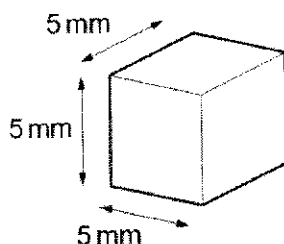

Fig. 2.1
1. Cut 3 cubes from the agar, **A**, as shown in Fig. 2.1. Each cube should be approximately 5 mm × 5 mm × 5 mm but they must all have the same dimensions. Cut the cubes from **A** on the white tile provided.